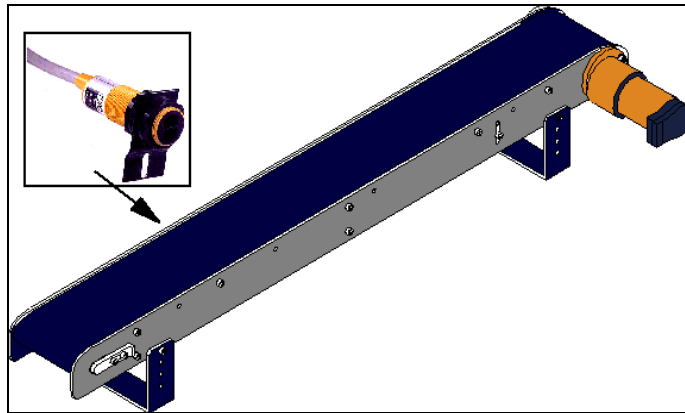

Figure 15
- 3 Attach the photoelectric sensor to the side of the conveyor away from the robot, as shown in Figures 15 and 16.